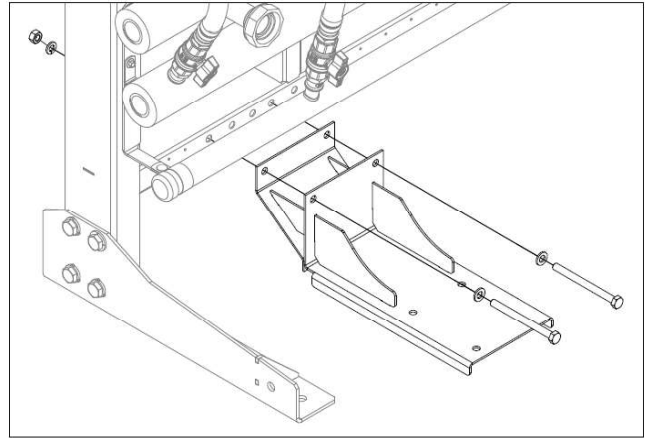

Figure 9
10. If required, remove the pump bracket by removing 2 x bolts holding it to the frame. Refer to **Figure 9**.